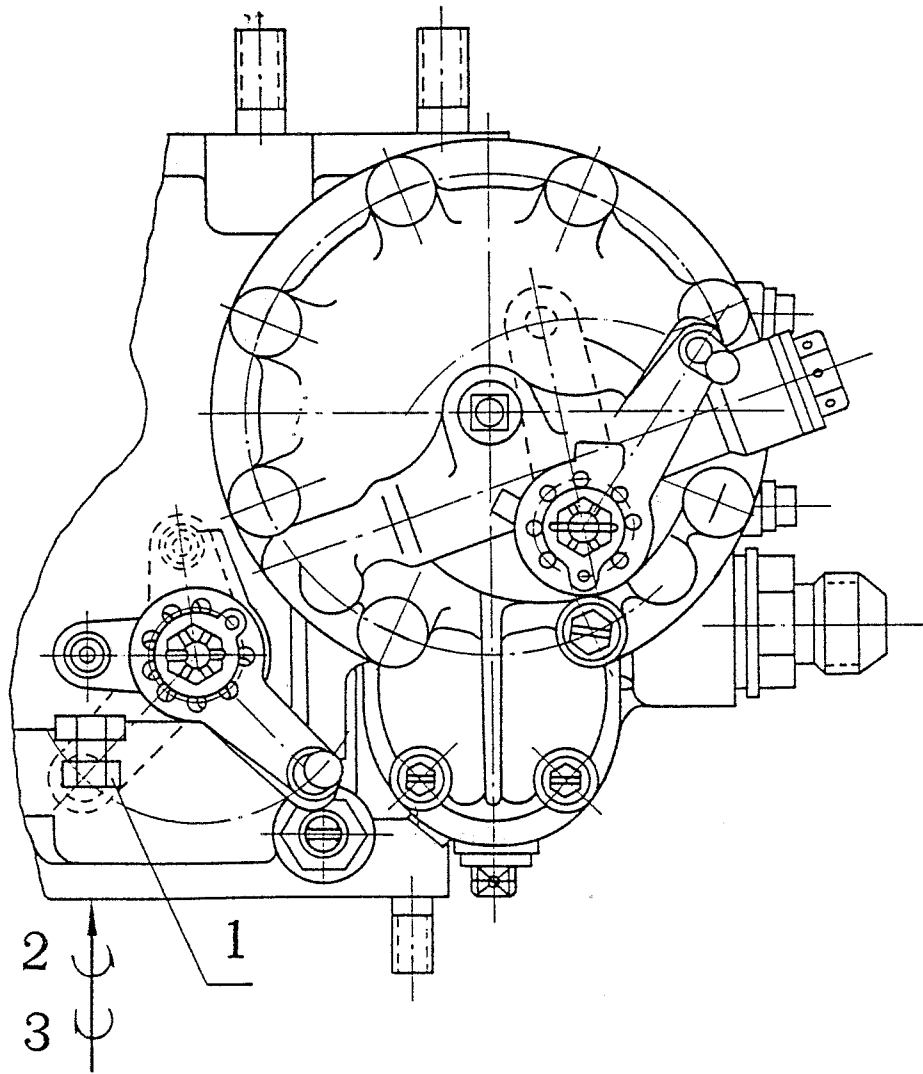

Fig. 6 Scheme of Adjusting the Idling Speed
b. The idling speed can be adjusted by varying the opening of the throttle with the help of idling stop screw (Fig. 6).